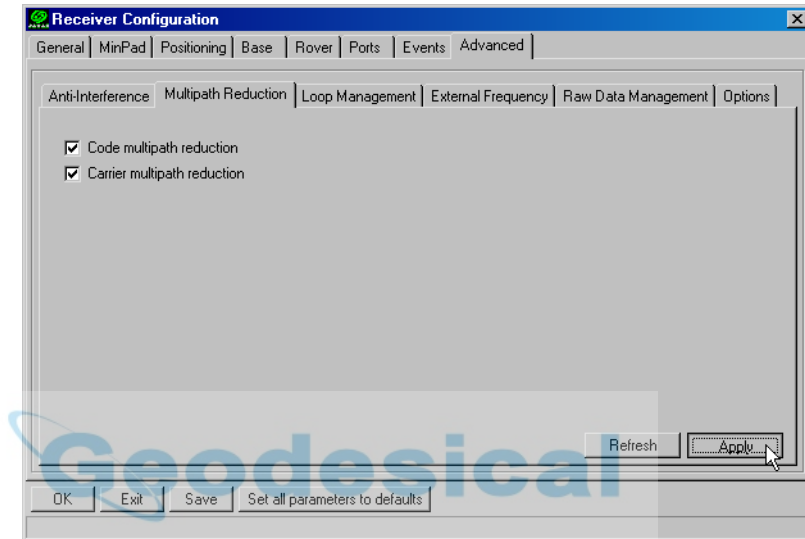

Figure 3-6. Advanced->Multipath
3. Click the **Advanced** tab and then the **Multipath** tab, set the following parameters, then click **Apply** (Figure 3-6 on page 3-9):